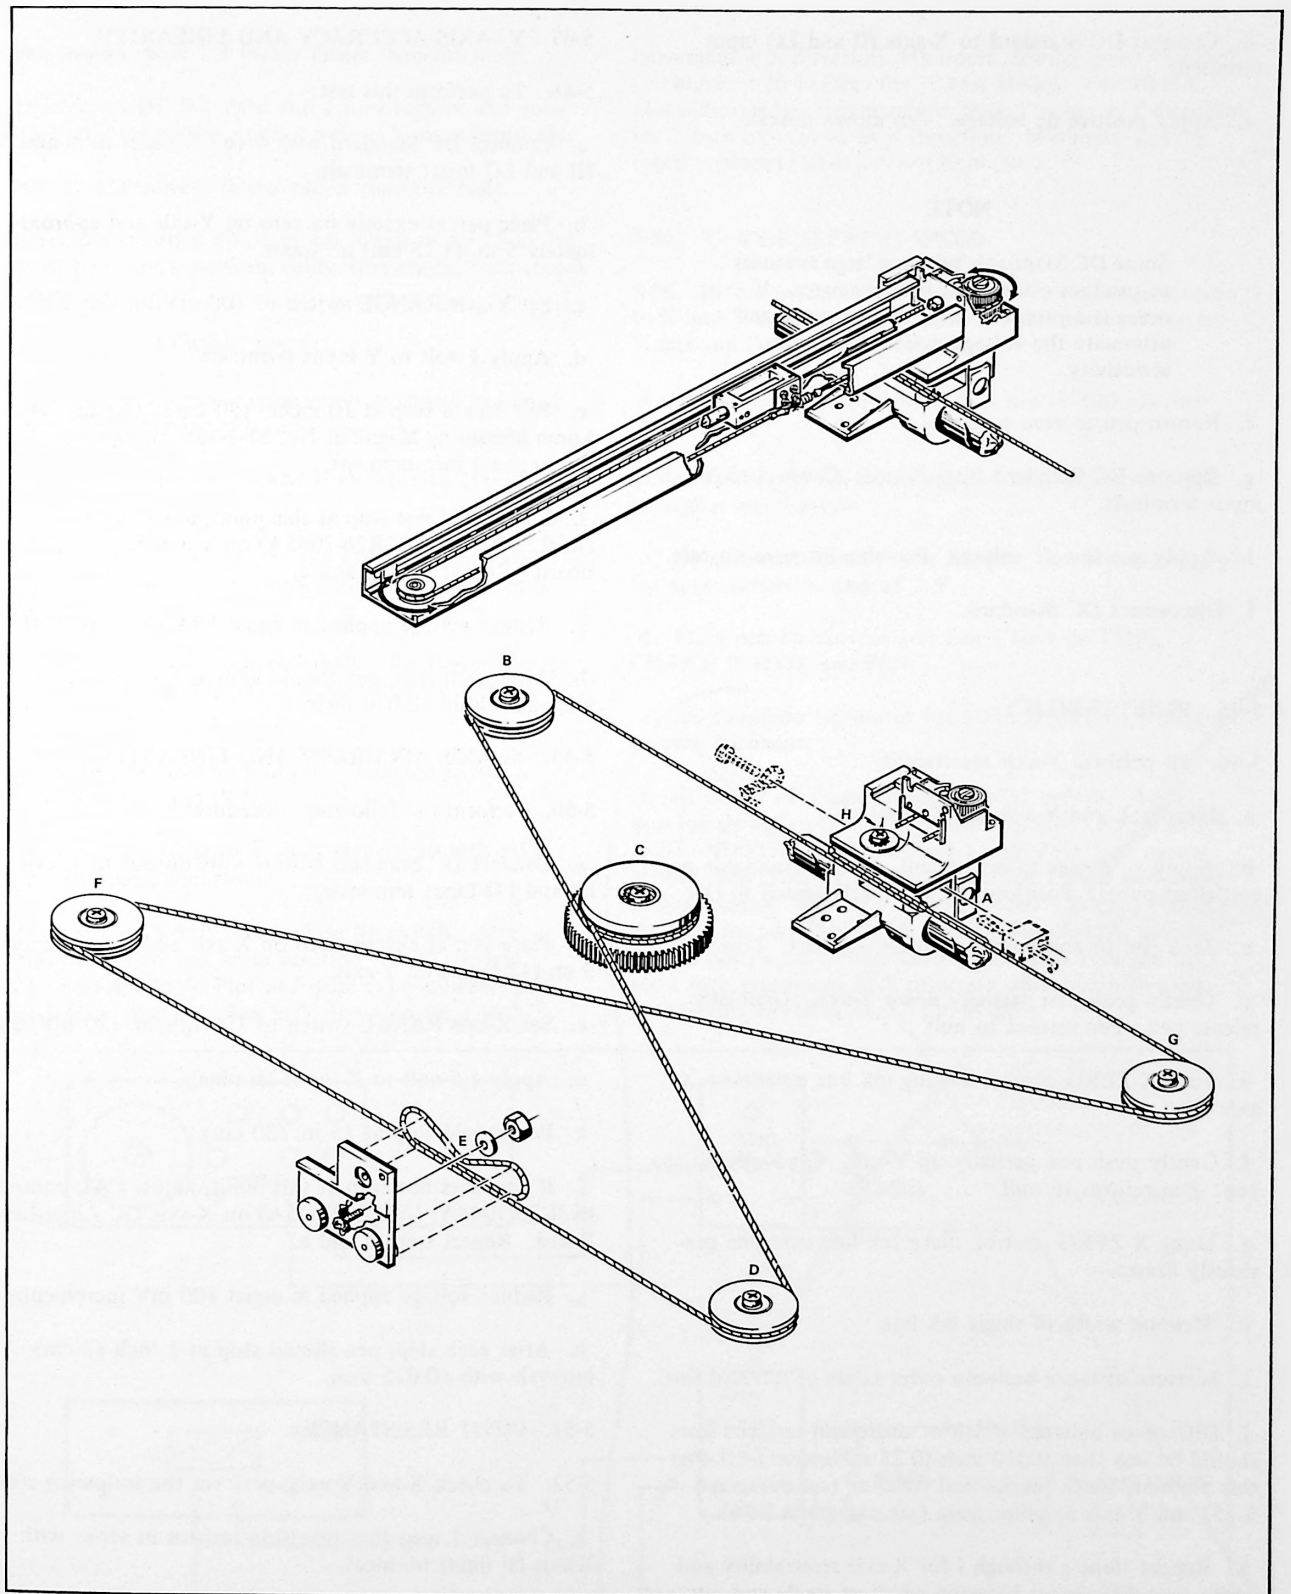

Figure 5-11. X and Y-Axis Restraining, 7045A Model
d. Using X-axis cable assembly, Part Number 07041-60009 insert plastic adjustment block into hole in slider block (Point A). See Figure 5-11. Place screw in slider block and thread into plastic adjustment block. Route cable in counterclockwise direction around pulley (Point B) to drive pulley (Point C). Loop in counterclockwise direction around pulley two times. Proceed to lower right corner pulley (Point D). Loop in clockwise direction around carriage arm block (Point E) going on inside of pulley to left corner pulley (Point F). Pass cable under previous stringing to loop around last pulley in right upper corner (Point G). The stringing terminates at the other end of slider block (Point H). Remove screw holding plastic adjustment block. While holding block in position, insert screw through cable loop and into slider block.